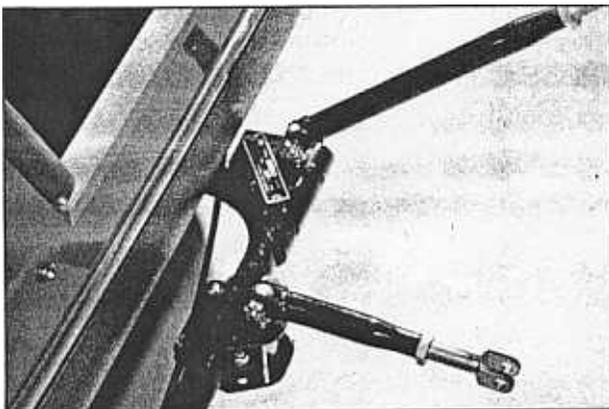

FIGURE 6. If necessary, short Strut can be inverted. Compare to figure 5. Short Strut must always be exactly at 90° to the frames.
7. Insert the **Eyebolt** with the **Spacer Sleeve** into the **Sliding Clamp**, and fasten with **Nut**, as shown in figure 5. Figure 6 shows the **Eyebolt** and **Strut** inverted for cases when such an assembly is required.